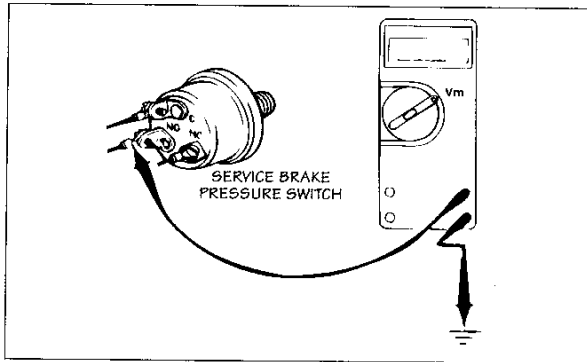

FIG. 1.1.15
Correction: Connect the positive (+) probe of the VOM to the normally open (NO) contact of the brake pressure switch and the negative (-) probe to ground. With the system activated, sufficient air pressure to activate the brake pressure switch, cruise control switch on, and clutch pedal up, the volt meter should read 5 volts (Fig. 1.1.15). With the service brake pedal depressed, the volt meter should read 0 volts. If these readings are not obtained, replace the service brake pressure switch.